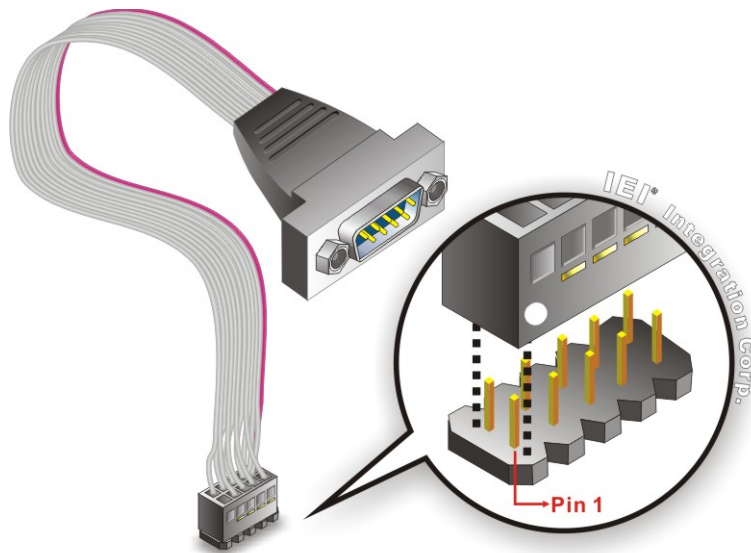

Figure 4-21: Single RS-232 Cable Installation
Step 2: **Insert the cable connector.** Align the cable connector with the onboard connector. Make sure pin 1 on the board and connector line up. Pin 1 on the cable connector is indicated with a white dot. See **Figure 4-21**.